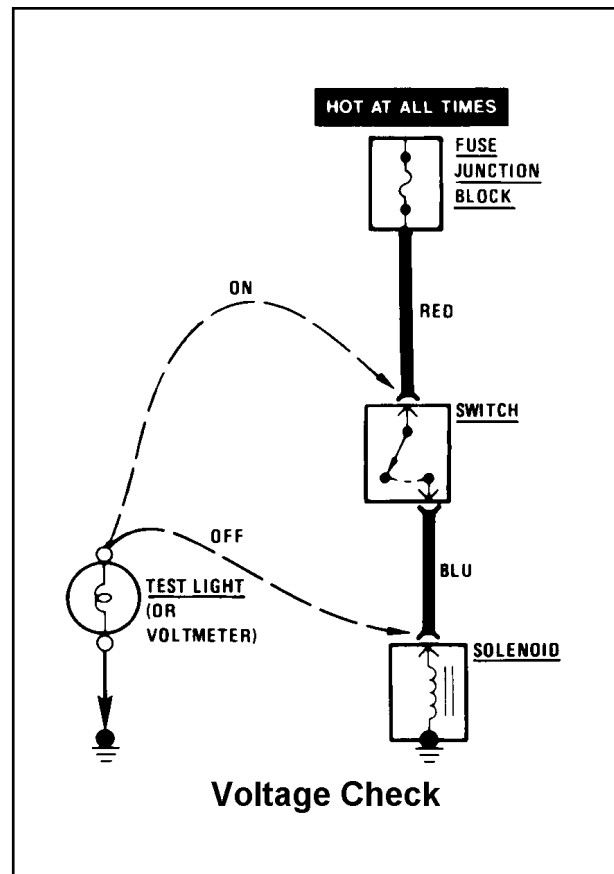

Figure 6
3. If you are using a voltmeter, note the voltage reading. It should be within one of measured battery voltage. A loss of more than one volt indicates a problem. See Figure 6.